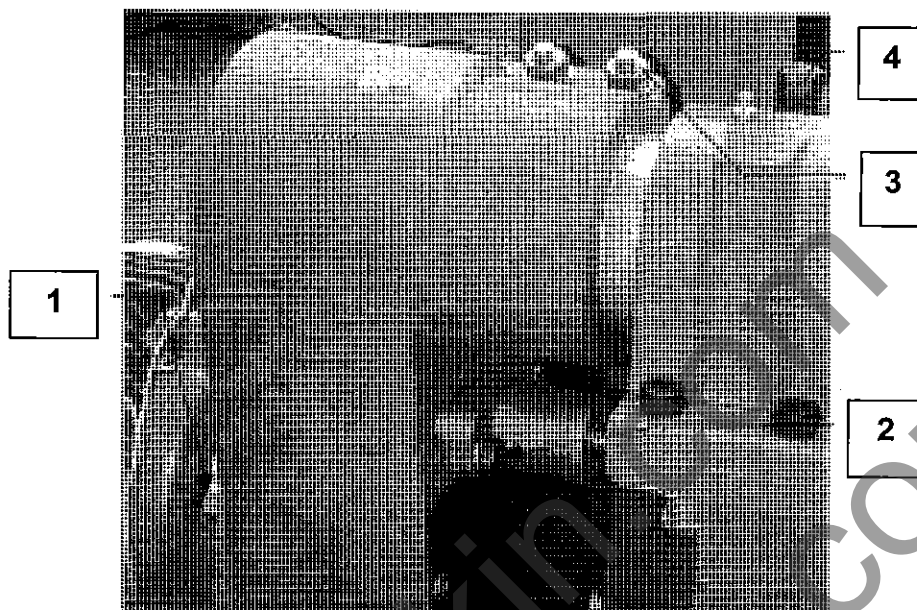

Figure 7.3.3
- 2 Slacken the four flange nuts (1). Ease the motor **away** from the spindle.
- 3 Fit the screw block (2) using the drive cover mounting holes as the fixing position.
- 4 Screw in the tensioning bolt (3) until the bottom of the bolt just touches the motor flange.
- 6 Tighten the four flange nuts (1).
7.3.3 Replace Spindle Drive Belt (Figure 7.3.3)
- 2 Slacken the four flange nuts (1).
- 4 Check that the barrel locknut (4) is tight.